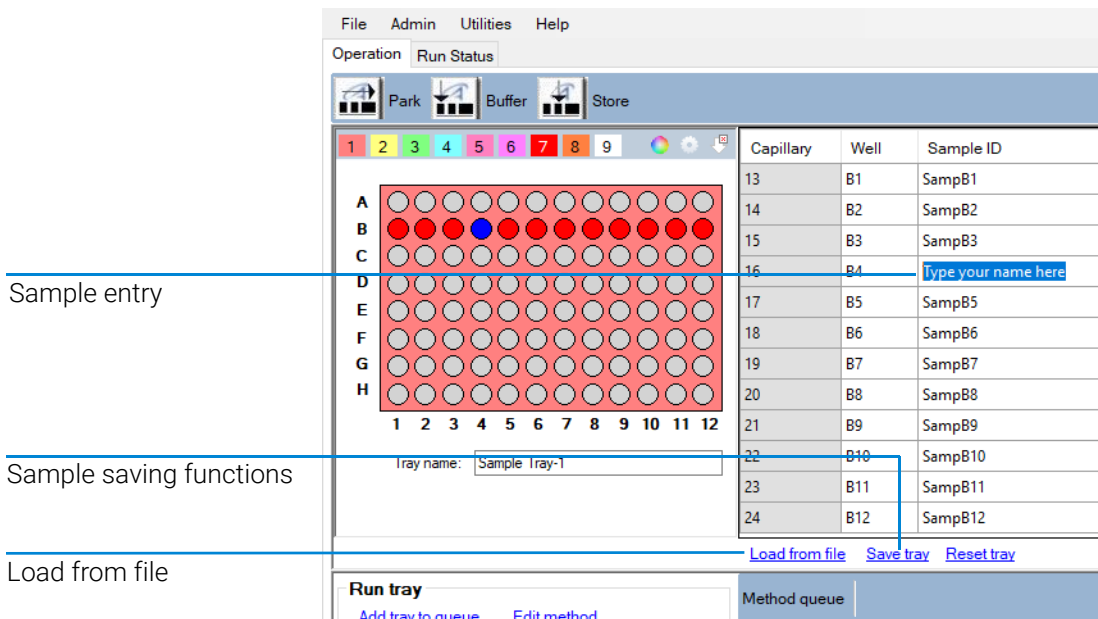

Figure 92 Manual sample entry
- 3 Select **Save tray** to save the file as a .txt or .csv (**Figure 92**).